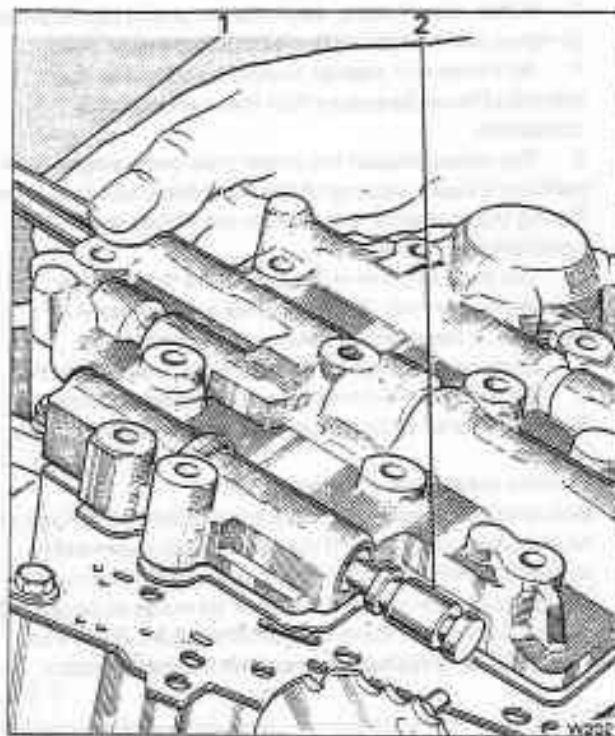

Fig. T13-1 Removing the control valve unit
3. Remove the control valve unit, together with the two governor pipes (see fig. T13-1).